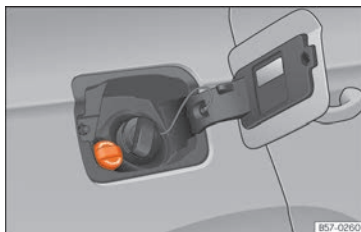

Fig. 207 AdBlue tank cap.
- Open the tank cover »» Fig. 207.
- Turn the bottle in a counter-clockwise direction and gently pull it upwards »» ❶.
- Turn the SCR tank cap anti-clockwise »» Fig. 207.